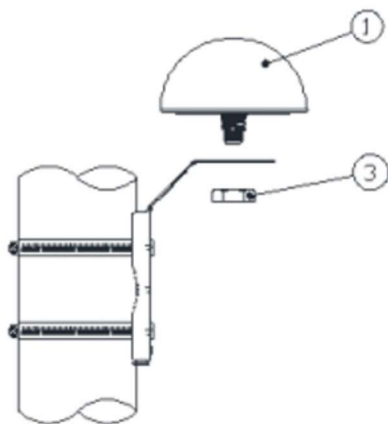

Figure 4. Illustration of M22 screw nut
4. Install the GNSS antenna unit on the bracket. Use M22 screw nut (3) for antenna unit tightening. The maximum nut tightening force is 15 Nm (refer to figure 4).